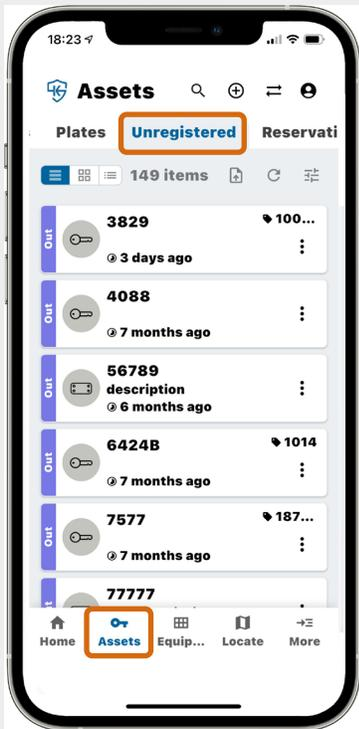
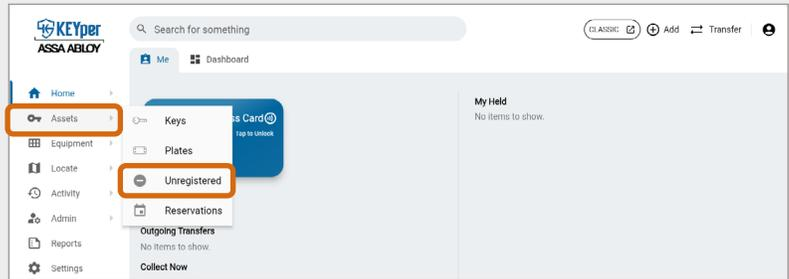

Fig. 58 – Tap Assets and Unregistered (KEYper GO)
Fig. 59 – Click Assets and Unregistered (KEYper GO Web)
2. Select **Assets**, then **Unregistered**, as shown in Fig. 58 and Fig. 59.